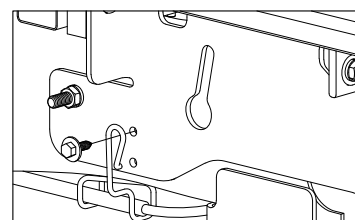

Figure C8: View from outside of Driver Side Frame.
- 5. Replace cable bracket.** If the brake cable bracket was removed at the beginning of the side plate installation, replace it onto the driver side plate using the M8 bolt that was originally in the frame, See Figure C8.